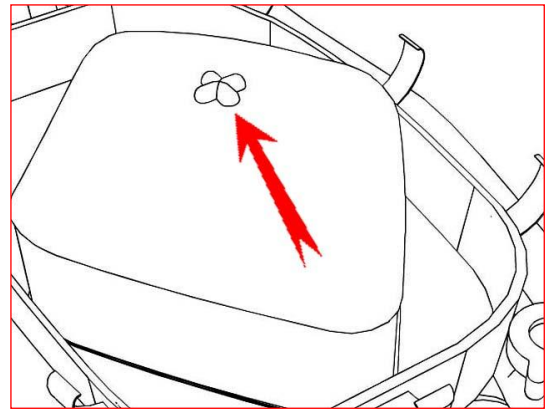

Figure 3
3. **Remove the plastic nut, air filter cover and filter. (see figure 3)**